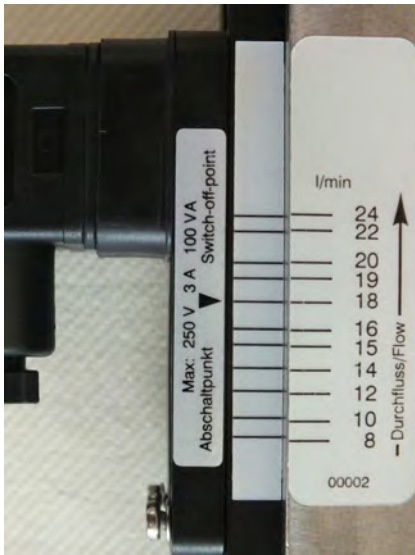

Fig. 36: Reading-off the switch point value (example)
1.  Make sure that the setting arrow, the scale mark on the positioning aid label (adhesive label on the guide rail) and the appropriate scale mark on the switch point adjustment scale are in alignment. (Fig. 36).